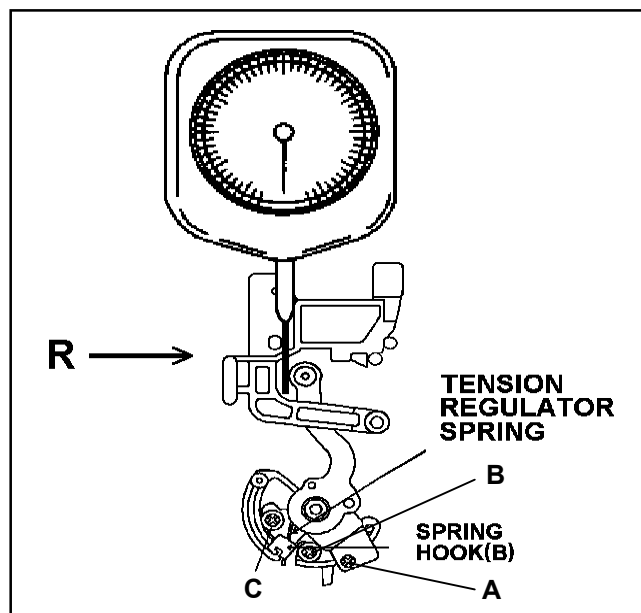

Figure 3-7-1
4. Push the tension post to the direction R by the tension gauge as shown in Figure 3-7-1 until the voltage at the test point becomes 1.2V (It means REV position).
6. After finishing this adjustment, glue the screw (A), (B) and (C). The glue quantity at (B) is half of (A) and (C).